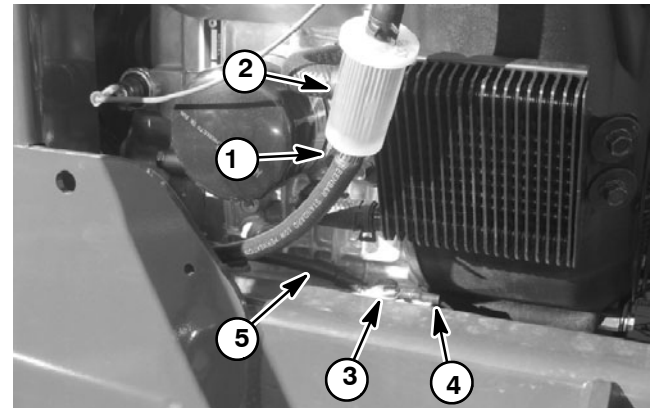
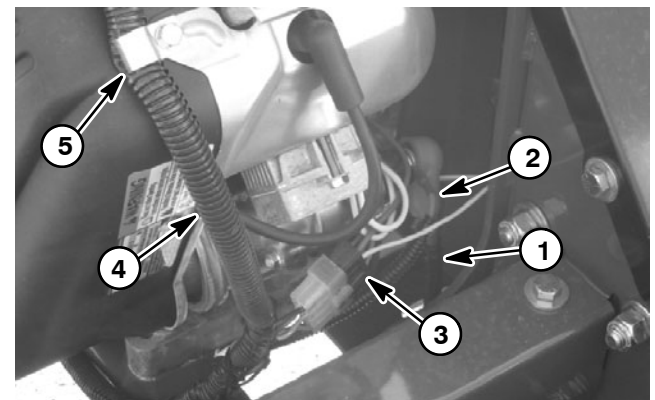
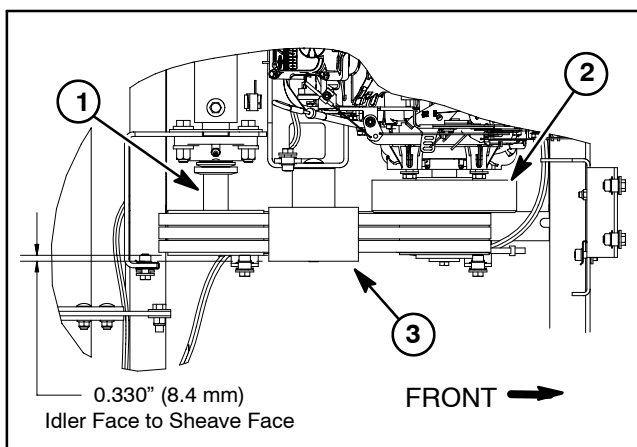

Figure 12
Figure 13
Figure 14
4. Unplug engine electrical harness connector from machine wire harness (Fig. 13).
5. Disconnect positive cable and fusible link from the starter motor (Fig. 13).
7. Loosen screw that secures harness clamp to engine (Fig. 13). Position machine wire harness away from engine.
8. Loosen hose clamp that secures fuel hose to fuel filter inlet (Fig 12). Remove fuel hose from fuel filter. Plug fuel hose to prevent leakage and contamination. Make sure to clean up any spilled fuel. Position disconnected fuel hose away from engine.
10. Remove muffler guard (item 32), belt guard (item 26) and belt cover (item 30) (see Drive Belt Covers in the Service and Repairs section of Chapter 6 – Chassis). Make sure that tinnerman nuts (items 23 and 40) remain positioned correctly for assembly purposes.
13. Remove four (4) cap screws, eight (8) flat washers and lock nuts that secure engine to machine. Note that negative battery cable and wire harness ground wire are secured with the front, left corner screw (Fig 12). Also, at that location, retrieve internal lock washer from between engine and wire connectors.
A. Make sure that negative battery cable, wire harness ground wire and internal lock washer are installed with the front, left corner screw (Fig 12).
B. The rear, left corner screw should be installed up through frame and engine. The other three (3) screws should be installed down through engine and frame.
**IMPORTANT: After adjusting belt tension, check that distance from idler pulley face to the faces of the clutch drive pulley and jack shaft driven pulley is correct (Fig. 14). This distance is necessary to ensure that idler pulley is correctly aligned to drive belts. If necessary, re-adjust positions of drive and driven pulleys to allow correct distance (see Jack Shaft Assembly in the Service and Repairs section of Chapter 6 - Chassis).**
9. Make sure that tinnerman nuts (items 23 and 40) are correctly positioned at frame brackets.
11. Plug engine electrical harness connector into machine wire harness (Fig. 13).
12. Connect positive cable and fusible link to starter motor (Fig. 13).
14. Position wire harness under harness clamp on engine and secure in place with screw (Fig. 13).
15. Remove plug installed in fuel hose during engine removal process. Connect fuel hose to the fuel filter inlet and secure with hose clamp (Fig 12).